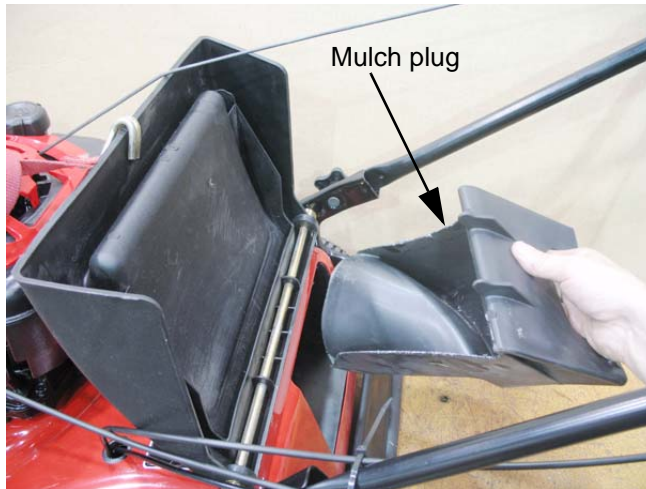

Figure 4.1
1. First remove the mulch plug. See Figure 4.1.